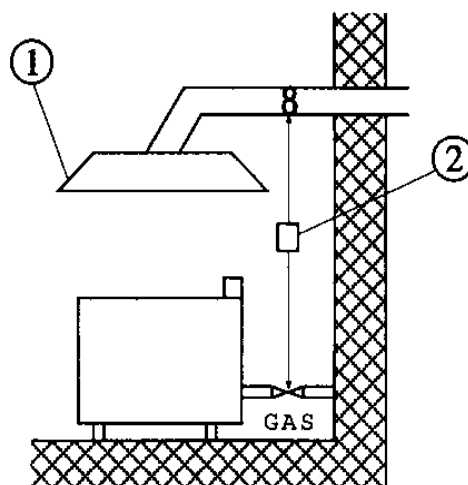

Fig.2
If there is no hood, as an alternative, an air extractor connected directly to the outside is acceptable, (Forced Discharge) Fig. 2, but its capacity must not be inferior to what is established in item 4.3 of the UNI-CIG norm 8723.